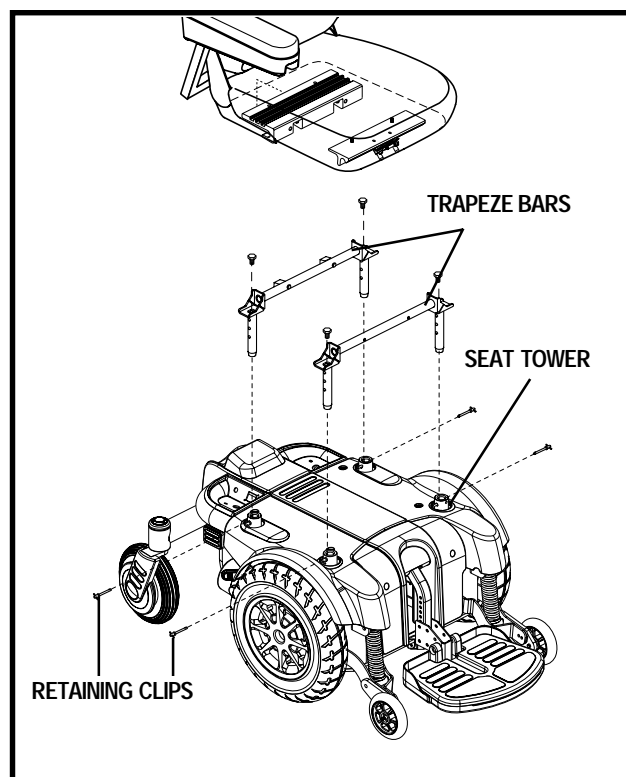

Figure 13. Seat Height Adjustment
6. Remove the retaining clip from each of the four seat towers. See figure 13.